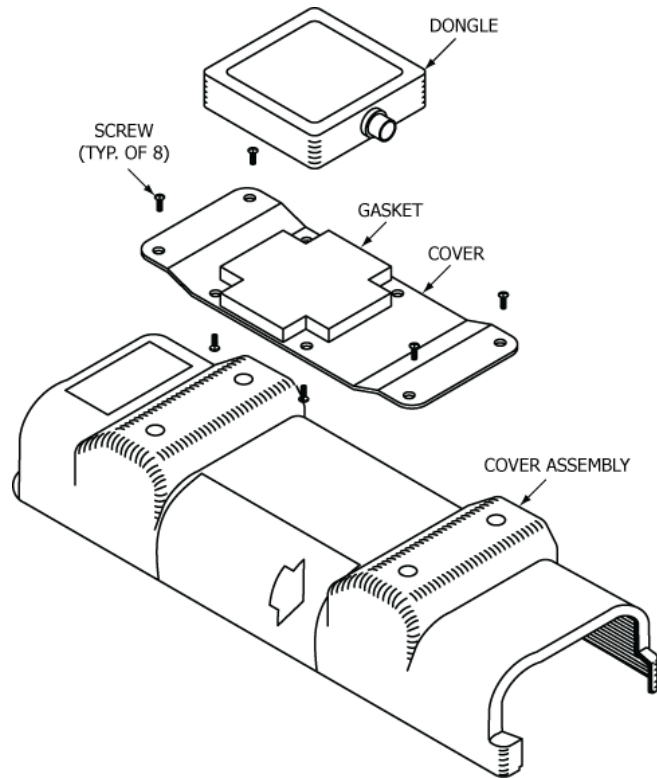

Figure 3 Dongle Removal Sequence
1) See Figure 3 Dongle Removal Sequence.